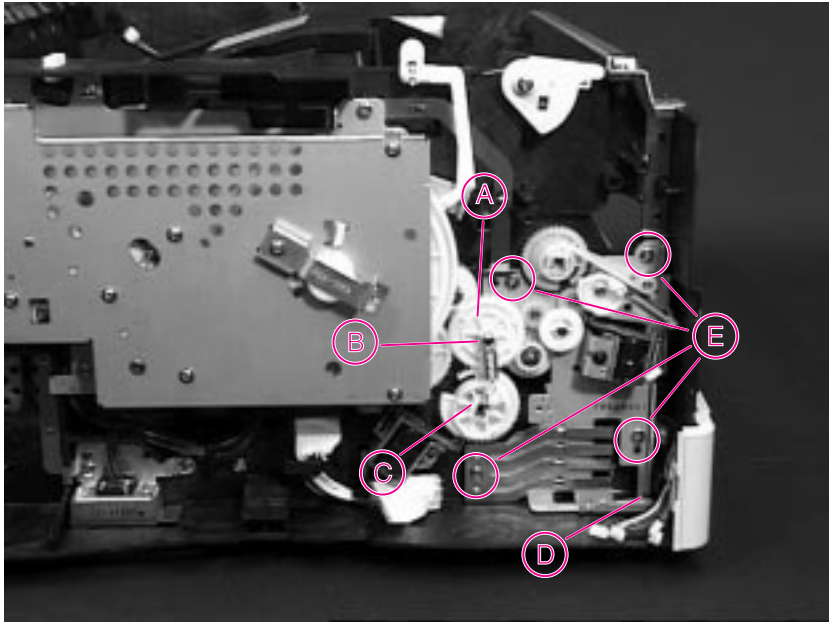

Figure 6-28 Pickup Gear Assembly (left side view of printer - Main Gear Assembly has not been removed)
- 2 Remove the four self-tapping screws from the Gear Assembly. Figure 6-28 shows the Assembly and the location of the screws.
- 3 Release the small spring (B) on the gear.
- 2 Remove the Paper Feed Roller Clutch (C) located on the left side of the Paper Feed Roller Assembly, below the Registration Assembly Clutch. Remove the E-Clip on the clutch, and slide the clutch off the shaft. If necessary, free the cable from the retaining clip on the inside of the chassis, behind the Left Corner Cover. See Figure 6-28 on page 6-36.